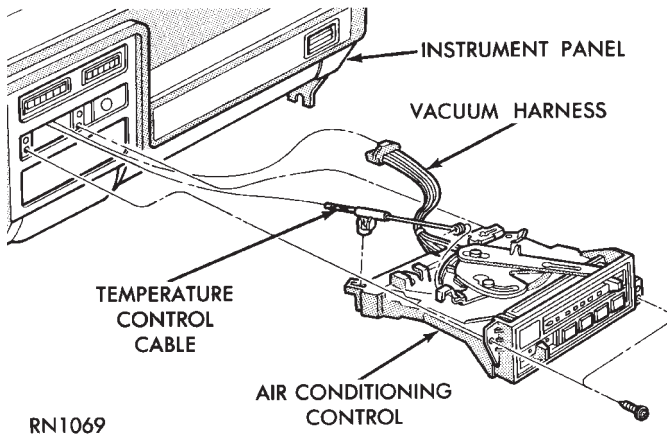

Fig. 3 Temperature Control Cable
(4) Remove heater A/C control. Then squeeze the attaching flag which holds the cable to the control and remove the cable (Fig. 3).